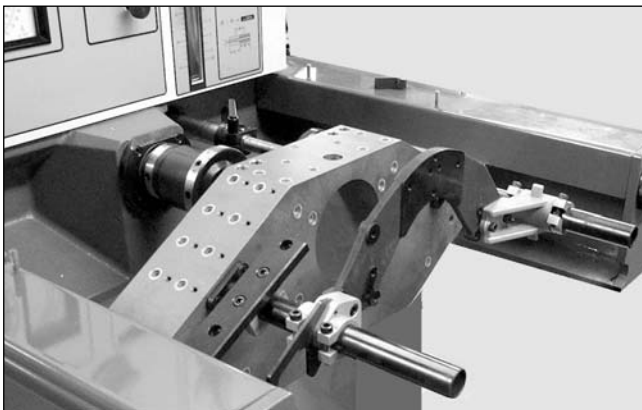

FIGURE 3-1, Universal Fixture
35. If using standard Universal Fixture, position Torque Arm to resist torque of workpiece as shown (see Figure 3-1). Adjust bar so that torque is taken as far from honing tool as possible but with out risk of workholding fixture slipping past torque bar (refer to Appendix A).